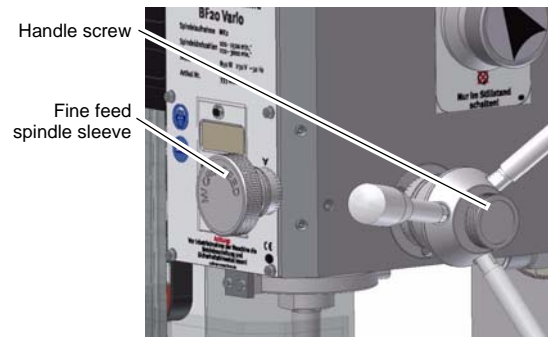

Fig.4-7: Fine feed
- Loosen the handle screw (☞ Fig. 4-7: „Fine feed“ on page 30) .